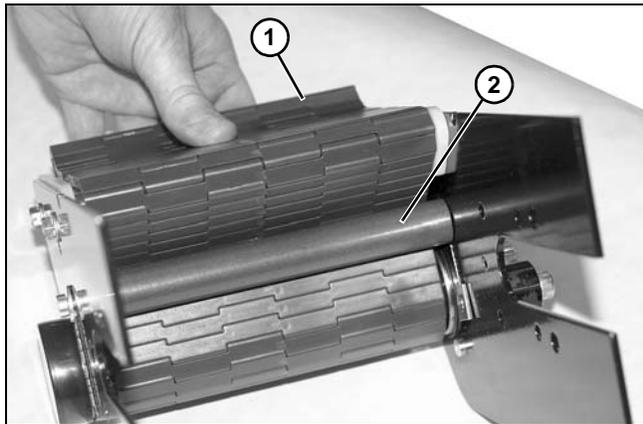

Figure 138
6. Continue routing belt (Figure 138, item 1) around tensioning rod (Figure 138, item 2).